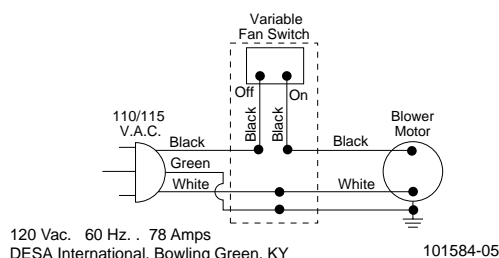

Figure 17 - Location of Wiring Diagram Decal 3" from Blower
10. Peel off backing paper and stick supplied wiring diagram decal near center of firebox bottom (Figure 17, page 13).